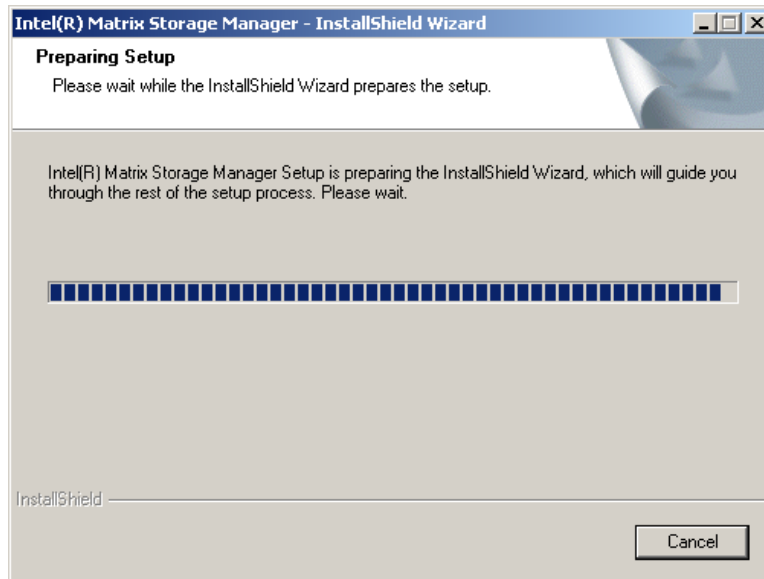

Figure 6-28: InstallShield Wizard Setup Screen
Step 6: **Figure 6-28** shows the **InstallShield Wizard** preparing to guide the user through the rest of the process.